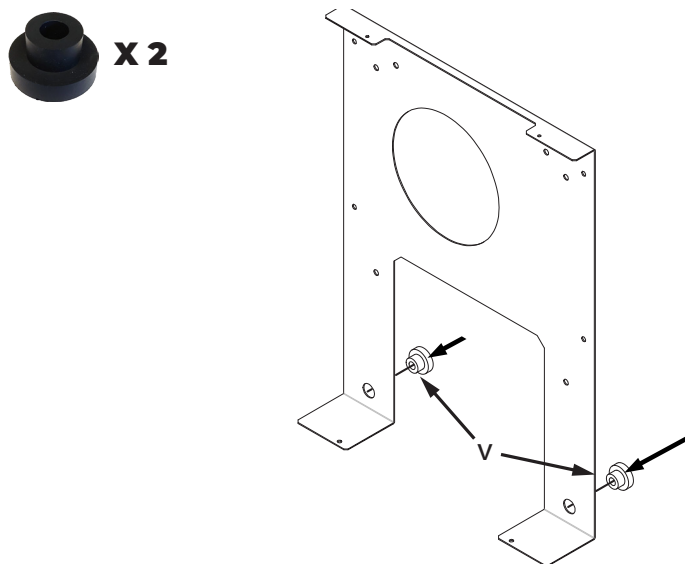

Figure 3a
3. Insert the two provided rubber grommets (v) into the lower bracket as shown in figure 3a. Place the hanging bracket over the square hole. Check to see the bracket is level. After leveling the hanging bracket, mark the four holes as shown in figure 3b.